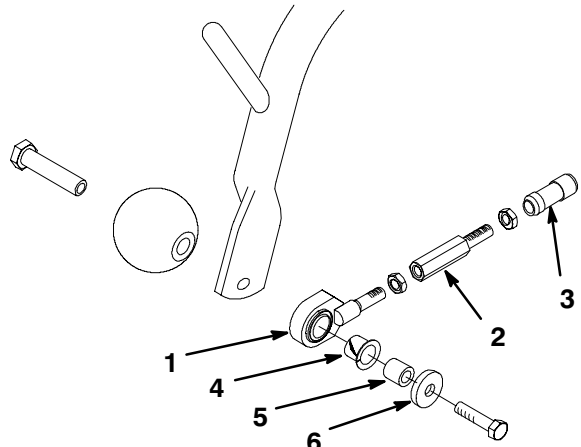

Figure 7
1. Mount an anti-scalp roller and a pull link assembly to the outer end of each front carrier frame with a roller shaft, spacer, washer, and capscrew (Fig. 7). Make sure the nylon bushing is in the pull link.